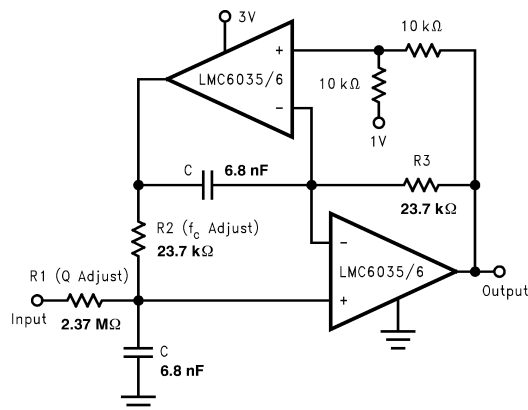

Figure 49. 2 Pole, 1kHz Active, Bandpass Filter
The dual amplifier bandpass (DABP) filter features the ability to independently adjust f_c and Q. In most other bandpass topologies, the f_c and Q adjustments interact with each other. The DABP filter also offers both low sensitivity to component values and high Qs. The following application of Figure 49, provides a 1kHz center frequency and a Q of 100.
1. First choose a center frequency (f_c). Figure 49 represents component values that were obtained from the following computation for a center frequency of 1kHz. $R2 = R3 = 1/(2\pi f_c C)$ Given: $f_c = 1\text{kHz}$ and C (chosen) = **6.8nF** $R2 = R3 = 1/(2\pi \times 1\text{kHz} \times 6.8\text{nF}) = 23.4\text{k}\Omega$